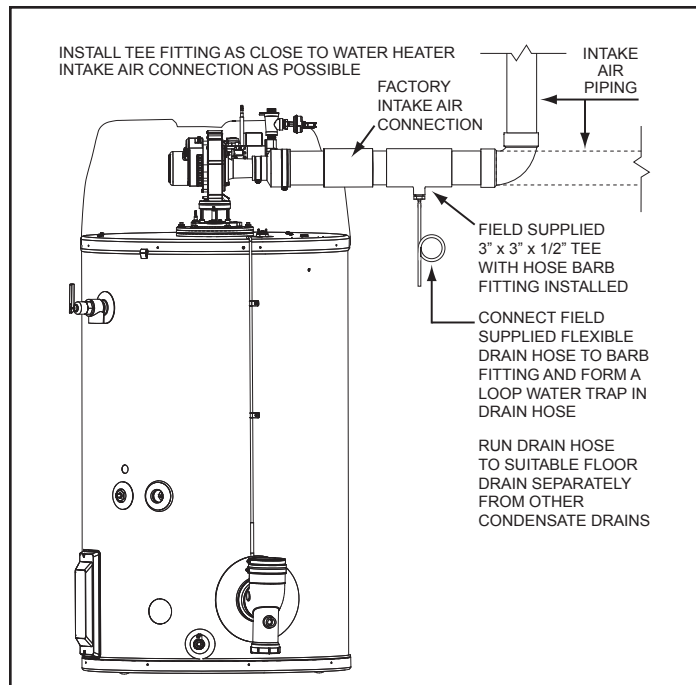

Figure 20. Intake Air Condensate Tee Installation
9. A field supplied condensate Tee fitting and drain hose shall be installed in the intake air piping near the water heater in colder climates with heavy snow accumulations and in areas that regularly experience high humidity. The drain hose should be routed to an adequate floor drain separate from any other condensate drains. See *Figure 20* (page 25).
Installations with any of these conditions are required to provide a moisture drain with a trap that flows to a waste drain. See **Figure 20**. A horizontal section of the air inlet pipe, near the heater should include a 3" x 3" x 1/2" tee and a hose barb fitting to drain the water. The tee should be as close to the heater as is practical. The drain tubing in any installation should have a loop trap and flow to an appropriate waste drain. The air intake drain line must be entirely separate from the exhaust vent outlet condensate line.